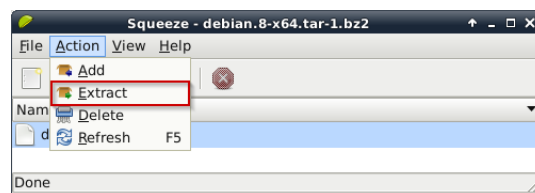

Figure 9: Linux—Extract Files
14. Extract the files, as shown in Figure 9.